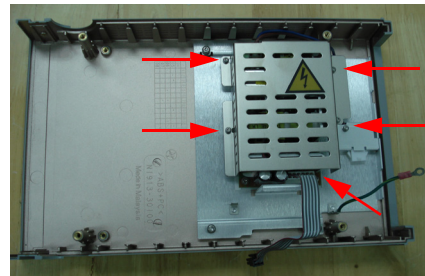

Figure 6-4 Remove the PSU safety cover and cable guide
- Remove the PSU safety cover (Figure 6-4). Use the T10 Torx screwdriver bit to remove the four screws attaching the PSU safety cover to the top clamshell. Lift and remove the safety cover.
- Remove the PSU cable guide (Figure 6-4). Use the T10 Torx screwdriver bit to remove the screw attaching the cable guide to the top clamshell. Lift and remove cable guide.